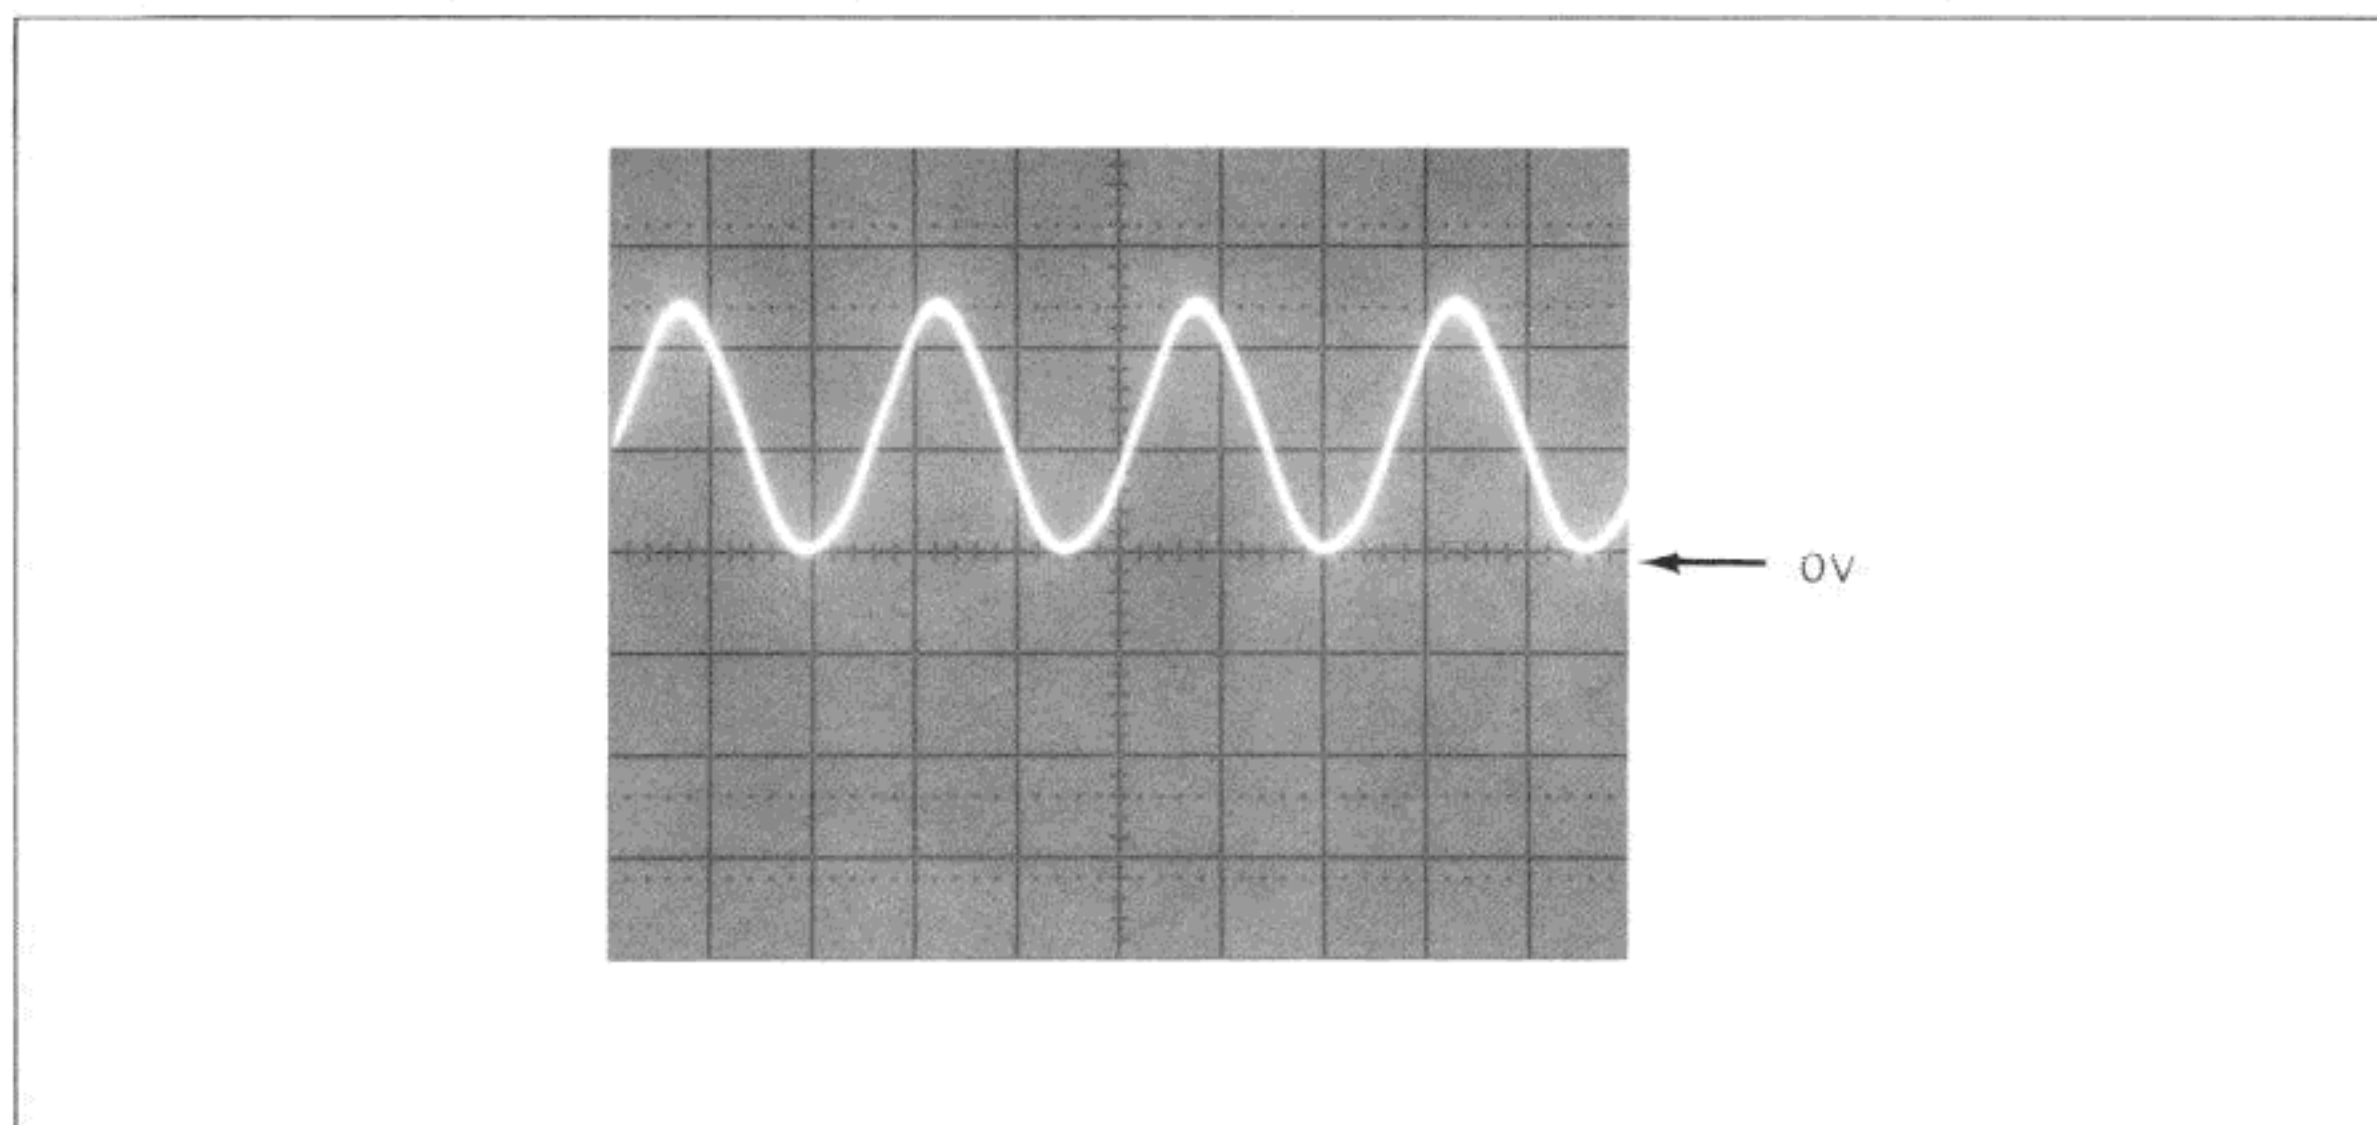

Figure 4-8-5. HP-IL Clock at U803. pins 23 and 24
5. Set the oscilloscope to $.2\mu\text{S}/\text{div}$ sweep time and $2\text{V}/\text{div}$ vertical gain. Check the HP-IL clock at U803 pins 23 and 24 as shown in Figure 4-8-5.